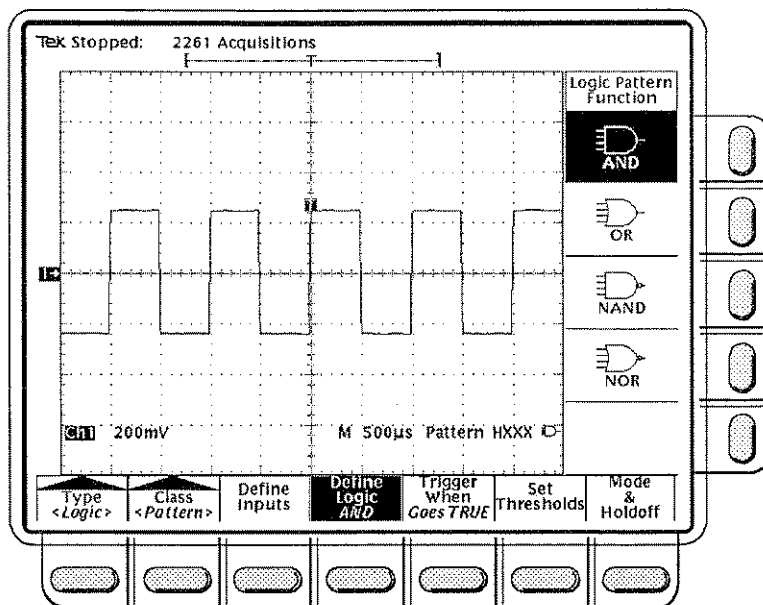

Figure 3-26: Main Trigger Menu – Logic Pattern Function
- Step 1:** Press the **TRIGGER MENU** button to call up the Main Trigger menu (Figure 3-26).
Define Logic – Press the main menu **Define Logic** button to bring up a side menu of logic operators to apply to the combinational inputs. Your choices are: **AND**, **OR**, **NAND**, and **NOR** (Figure 3-26).